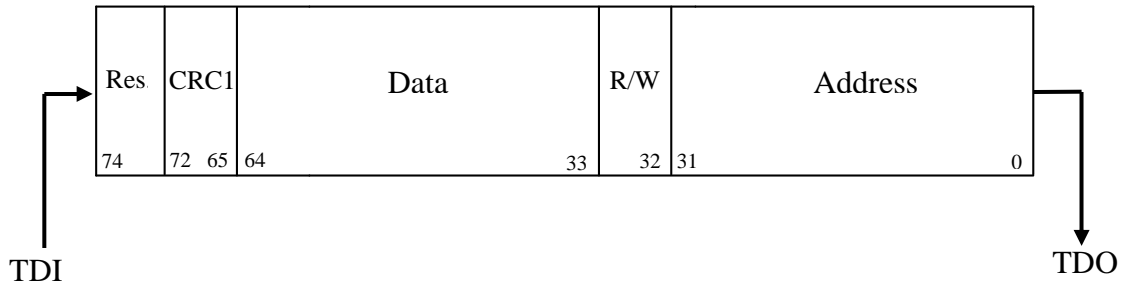

Figure 9: WISHBONE Scan Chain (data shifted in)
- ✓ CRC1 is shifted in (Figure 9: WISHBONE Scan Chain (data shifted in)). The host calculates it from the address, R/W bit, and data that are sent in.